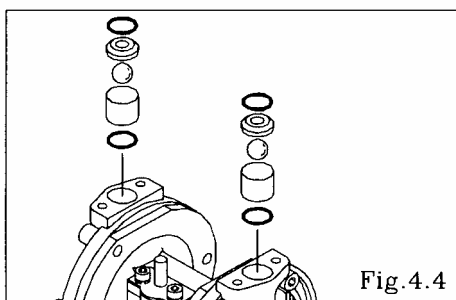

Fig.4.4
- Remove the O ring, valve seat, ball and valve stopper. [Fig.4.4]